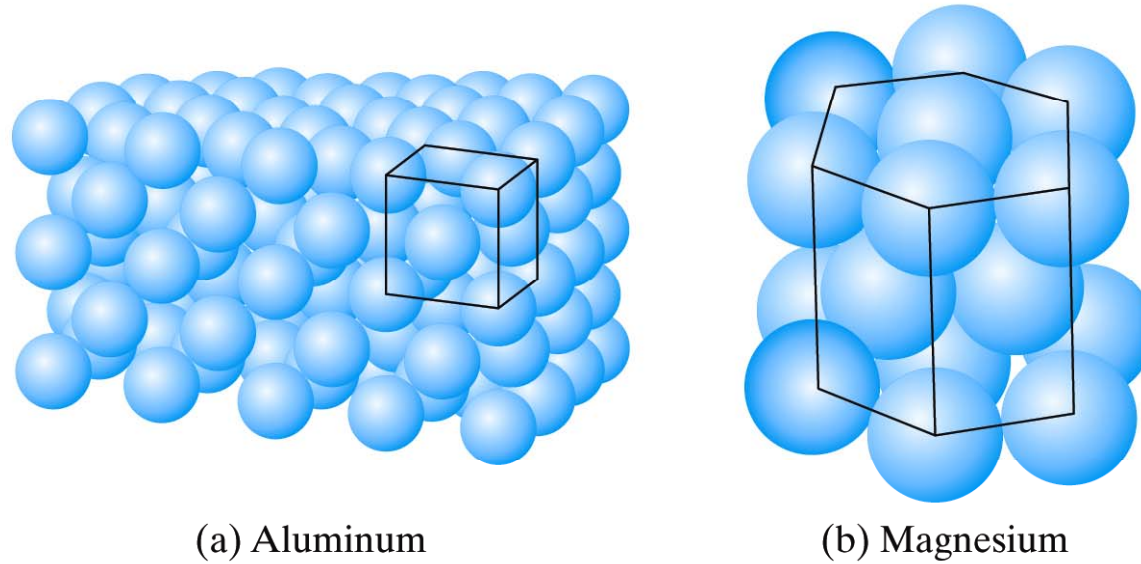

Figure 1.18
- A fundamental difference between a ductile Al alloy and a brittle Mg alloy relates directly to their different crystalline structures (see Fig. 1.18).